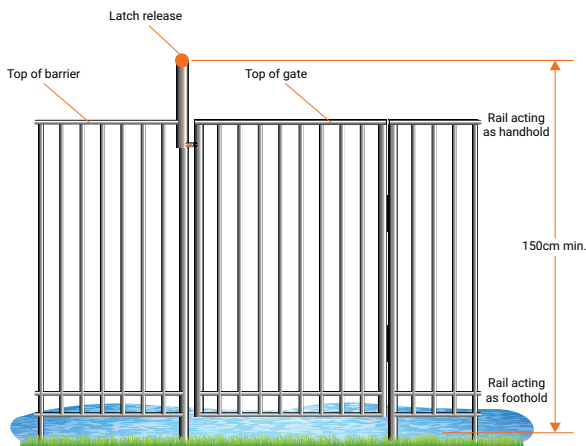

Figure 1 – Gate latch release mechanism at least 1.5 metres above the ground.
e. Is the latch mechanism either: • at least 1.5 metres above the ground (see Figure 1); or • located on the inside of the gate, at least 15cm below the top of the gate and shielded so no opening greater than 1cm occurs between the top of the gate and a radius of 45cm from the latch? (see Figure 2).	☐
d. Is there at least 90cm between handholds and footholds? (see Figure 1)	☐